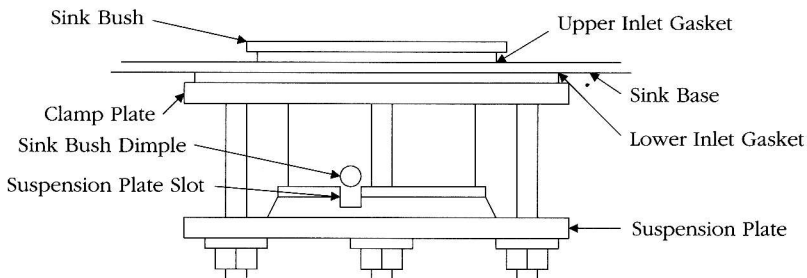

figure 5
- 1.5) You may now release the suspension plate and allow it to rest on the circlip and then rotate it until the slot (see Fig.5) in the edge of the plates upper rim is in line with the pimple on the sink bush. Tighten up the grub screws by hand a few turns to each in rotation so that the suspension plate remains parallel to the clamp plate. see fig 4. Finally, tighten with a screwdriver **Do Not** over-tighten the grub screws, as this will cause distortion of the Suspension Plate.